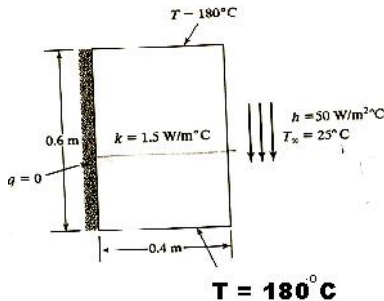

Fig. 5
- b) A long bar of rectangular cross section, having thermal conductivity of $1.5 \text{ W/m}^\circ\text{C}$ is subjected to the boundary conditions as shown in Fig.5 Two opposite sides are maintained at a uniform temperature of 180°C , one side is insulated, and the remaining side is subjected to a convection process with $T_a = 250^\circ\text{C}$ and $h = 50 \text{ W/m}^2 \text{ } ^\circ\text{C}$. Determine the temperature distribution in the bar.